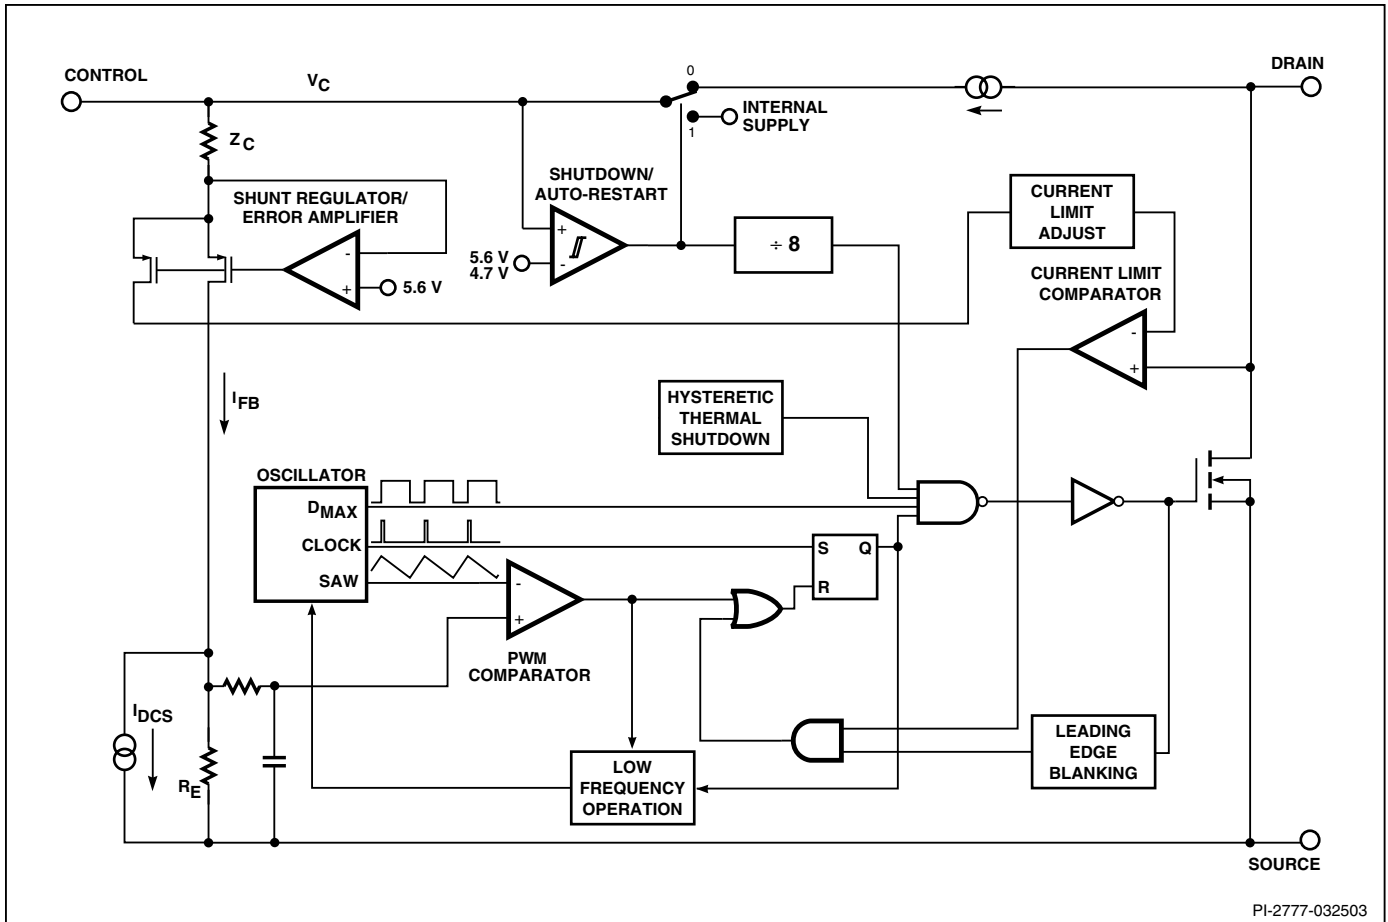
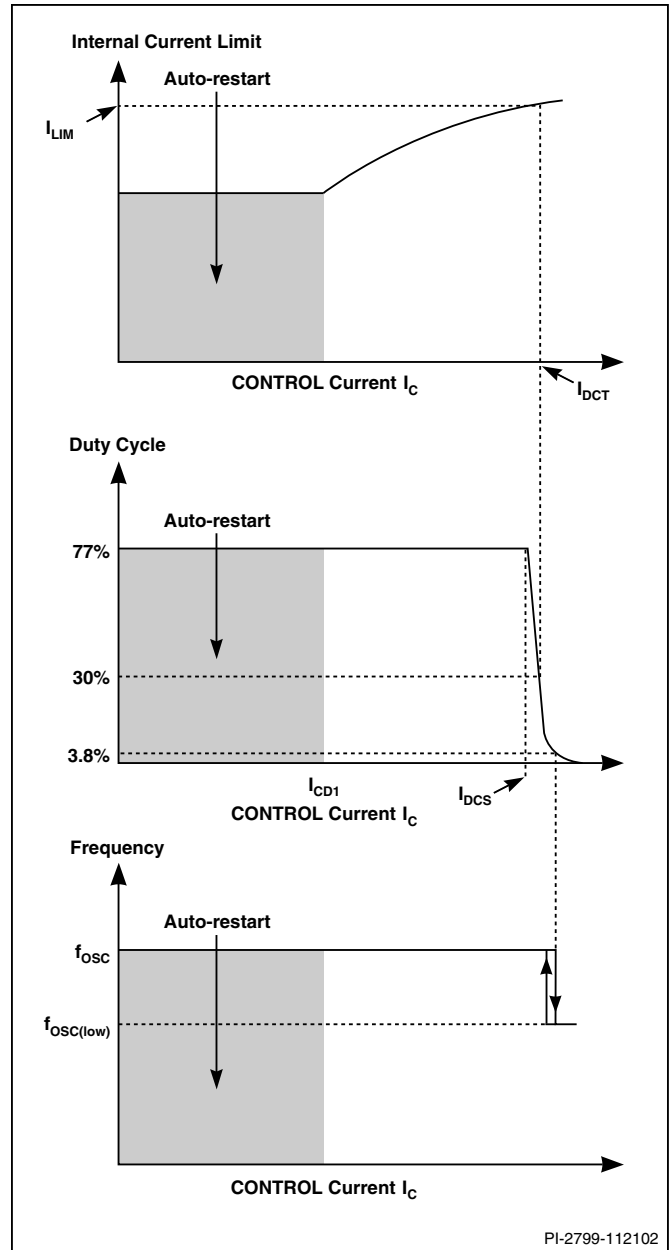
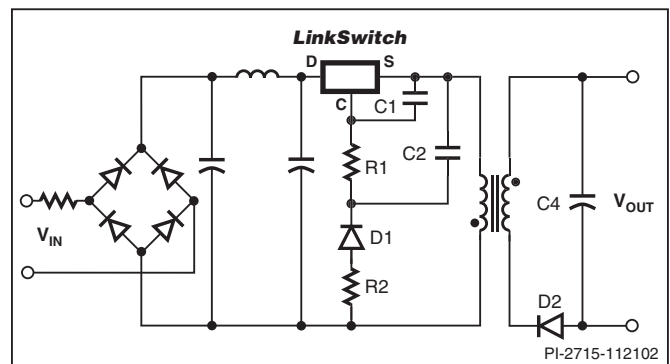
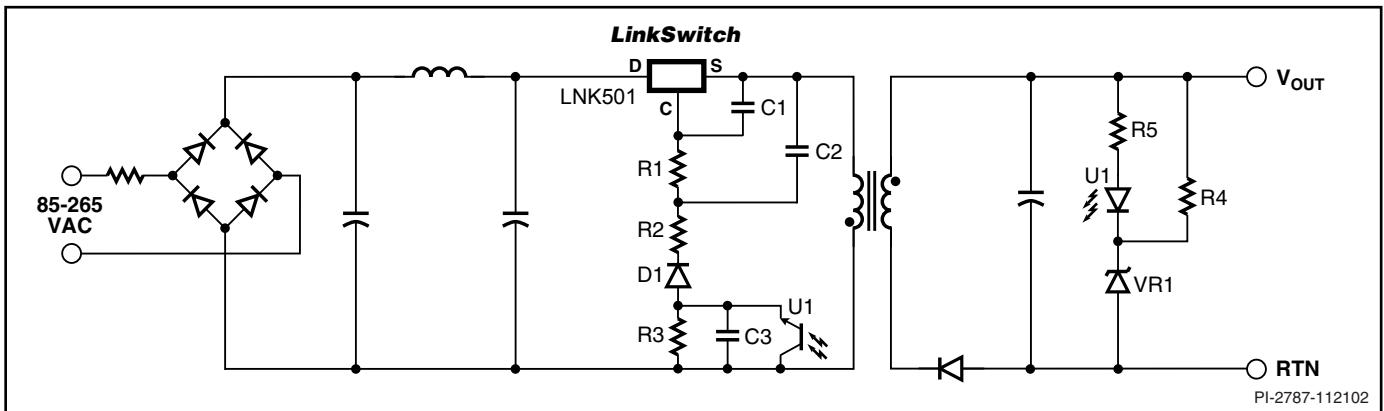

Figure 2. Block Diagram.
Figure 4. CONTROL Characteristics.
Figure 5. Power Supply Outline Schematic.
Figure 6. Power Supply Outline Schematic with Optocoupler Feedback.
The duty cycle, current limit and operating frequency relationships with CONTROL pin current are shown in Figure 4. Figure 5 shows a typical power supply outline schematic which is used below to describe the *LinkSwitch* operation.
During power up, as V_{IN} is first applied (Figure 5), the CONTROL pin capacitor C1 is charged through a switched high voltage current source connected internally between the DRAIN and CONTROL pins (see Figure 2). When the CONTROL pin voltage reaches approximately 5.6 V relative to the SOURCE pin, the high voltage current source is turned off, the internal control circuitry is activated and the high voltage internal MOSFET starts to switch. At this point, the charge stored on C1 is used to supply the internal consumption of the chip.
As the output voltage, and therefore the reflected voltage across the primary transformer winding ramp up, the feedback CONTROL current I_C increases. As shown in Figure 4, the internal current limit increases with I_C and reaches I_{LIM} when I_C is equal to I_{DCT} . The internal current limit vs. I_C characteristic is designed to provide an approximately constant power supply output current as the power supply output voltage rises.
When I_C exceeds I_{DCS} , typically 2 mA (Figure 4), the maximum duty cycle is reduced. At a value of I_C that depends on power supply input voltage, the duty cycle control limits *LinkSwitch* peak current below the internal current limit value. At this point the power supply transitions from CC to CV operation. With minimum input voltage in a typical universal input design, this transition occurs at approximately 30% duty cycle. Resistor R1 (Figure 5) is therefore initially selected to conduct a value of I_C approximately equal to I_{DCT} when V_{OUT} is at the desired value at the minimum power supply input voltage. The final choice of R1 is made when the rest of the circuit design is complete. When the duty cycle drops below approximately 4%, the frequency is reduced, which reduces energy consumption under light load conditions.
Figure 6 shows a typical power supply outline schematic using *LinkSwitch* with optocoupler feedback to improve output voltage regulation. On the primary side, the schematic differs
from Figure 5 by the addition of R3, C3 and optocoupler U1. Resistor R3 forms a potential divider with R1 to limit the U1 collector emitter voltage.
The feedback configuration in Figure 6 is simply a resistive divider made up of R1 and R3 with D1, R2, C1 and C2 rectifying, filtering and smoothing the primary winding voltage signal. The optocoupler therefore effectively adjusts the resistor divider ratio to control the DC voltage across R1 and therefore, the feedback current received by the *LinkSwitch* CONTROL pin.
When the power supply operates in the constant current (CC) region, for example when charging a battery, the output voltage is below the voltage feedback threshold defined by U1 and VR1 and the optocoupler is fully off. In this region, the circuit behaves exactly as previously described with reference to Figure 5 where the reflected voltage increases with increasing output voltage and the *LinkSwitch* internal current limit is adjusted to provide an approximate CC output characteristic. Note that for similar output characteristics in the CC region, the value of R1 in Figure 5 will be equal to the value of R1+R3 in Figure 6.
When the output reaches the voltage feedback threshold set by U1 and VR1, the optocoupler turns on. Any further increase in the power supply output voltage results in the U1 transistor current increasing, which increases the percentage of the reflected voltage appearing across R1. The resulting increase in the *LinkSwitch* CONTROL current reduces the duty cycle according to Figure 4 and therefore, maintains the output voltage regulation.
The extent to which R3 can be increased is limited by opto transistor voltage and dissipation ratings and should be fully tested before finalizing a design. The values of C2 and C3 are less important other than to make sure they are large enough to have very little influence on the impedance of the voltage division circuit set up by R1, R3 and U1 at the switching frequency. Normally, the values of C2 and C3 in Figure 6 are chosen equal to the value of C2 in Figure 5, though the voltage rating may be reduced depending on the relative values of R1 and R2 discussed above. See Applications section for typical values of components.
The output voltage load variation can be improved across the whole load range by adding an optocoupler and secondary reference (Figure 6). The secondary reference is designed to only provide feedback above the normal peak power point voltage to maintain the correct constant current characteristic.
The schematic shown in Figure 5 outlines the key components needed for a *LinkSwitch* supply.
Since the SOURCE pins in a *LinkSwitch* supply are switching nodes, the copper area connected to SOURCE together with C1, C2 and R1 (Figure 5) should be minimized, within the thermal constraints of the design, to reduce EMI coupling.